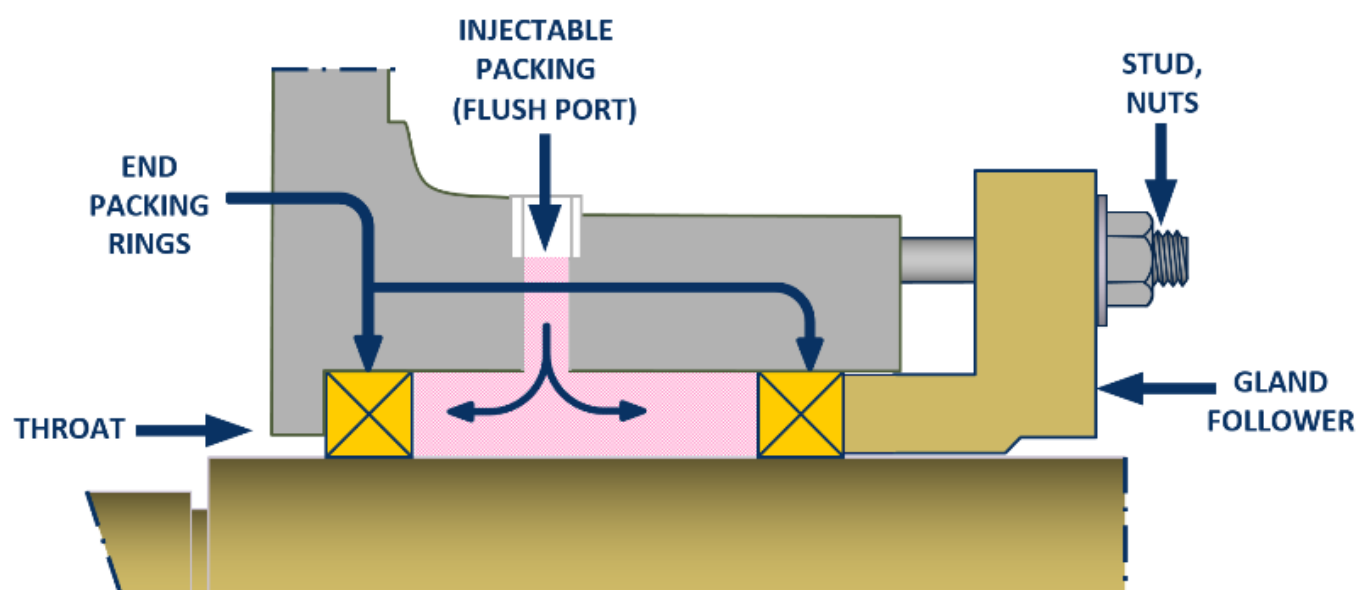

Figure 3: The packing mixture is injected through the lantern ring flush port into the stuffing box.
**Injectable packing** is one of these technologies that has proven to be highly effective for worn equipment. Unlike braided or die formed packing, injectable packing is a hybrid between a solid and a liquid composed of chopped reinforced fiber mixed with lubricants. Injectable packing works, as the name implies, by injecting the packing through the lantern ring flush port into the stuffing box as shown in Figure 3.